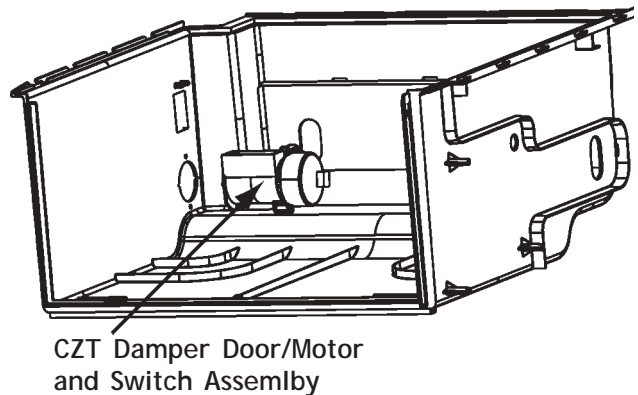

Figure 2-11
3. Remove the CZT damper motor/switch assembly as shown in Figure 2-11.